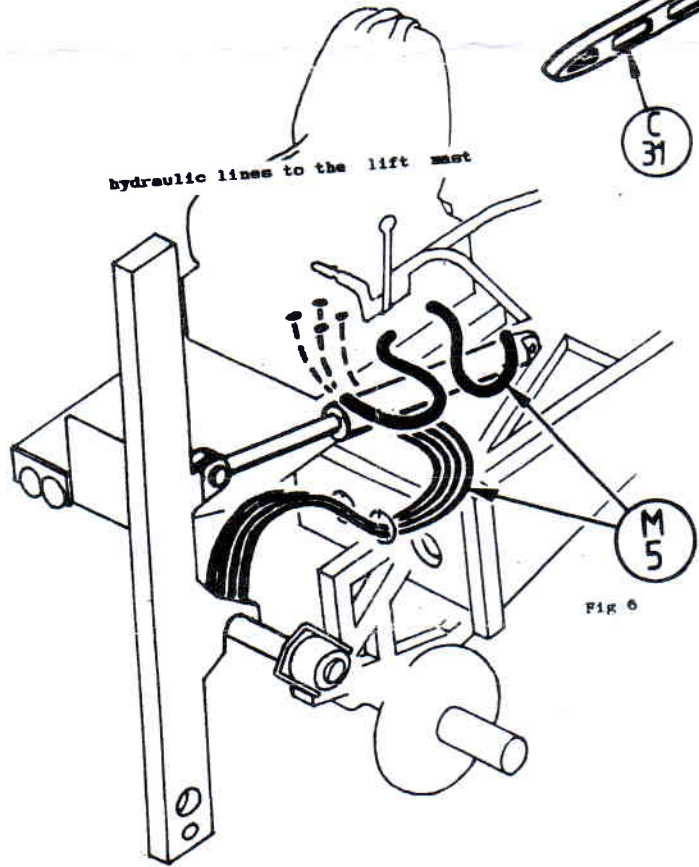

Fig 6
e) Using the copper wire M5 included and referring to the diagram, simulate the various hydraulic lines to the lift mast assembly and the ram. These can then be painted. Fig 6